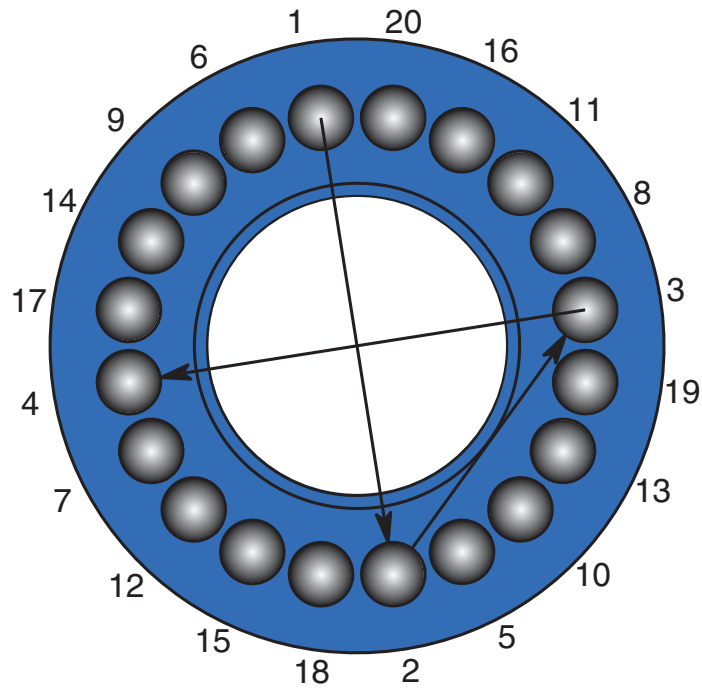

Figure 3-4. Flanged Bolting Sequence
5. Tighten all nuts uniformly in a diametrically staggered pattern (see Figure 3-4).